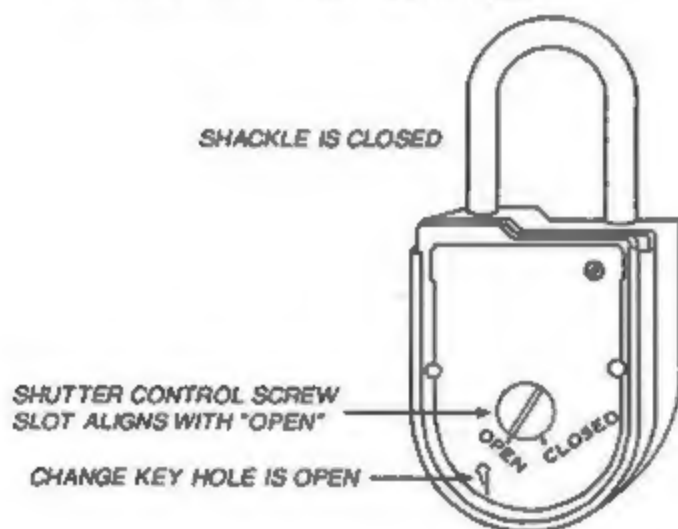

Figure 1
2. The shutter control screw is rotated so the change key hole is open and not blocked by the change key hole shutter (see Figure 1).